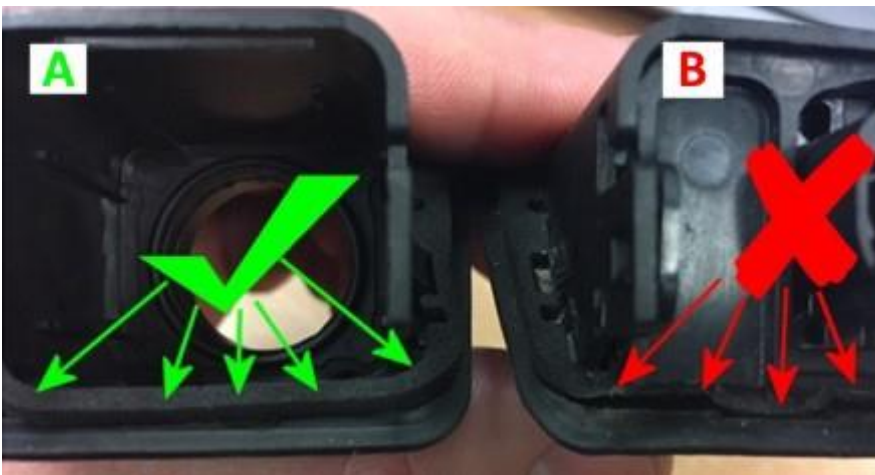

Figure 1
3) Referring to Figure 1 - Carry out an inspection of the reverse camera holder foam seal
4) Should the seal be as shown in Figure 1 (Point B) this is not to correct specification, a new replacement holder should be sourced/ordered